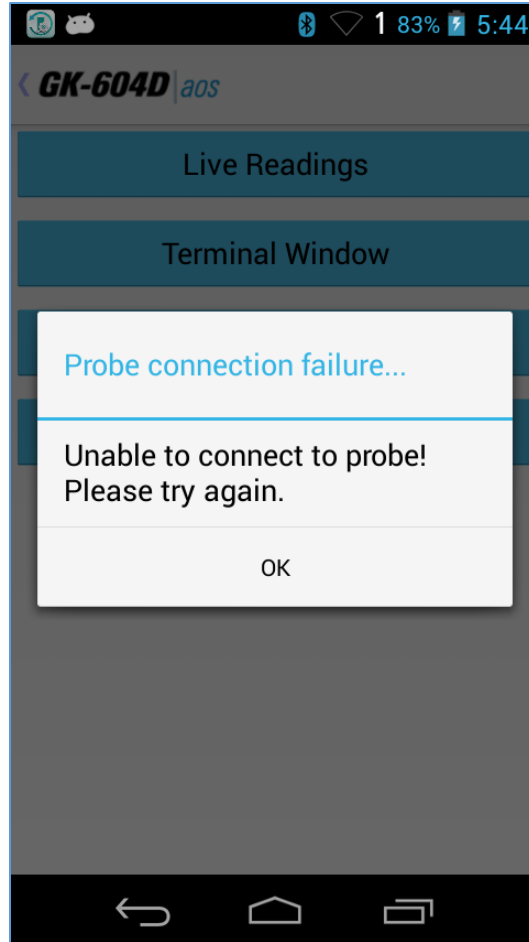
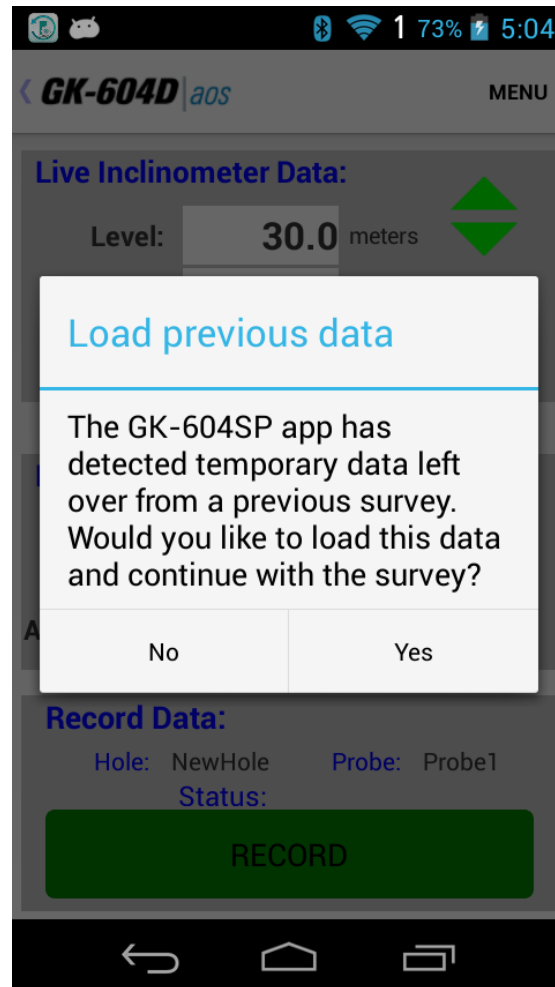
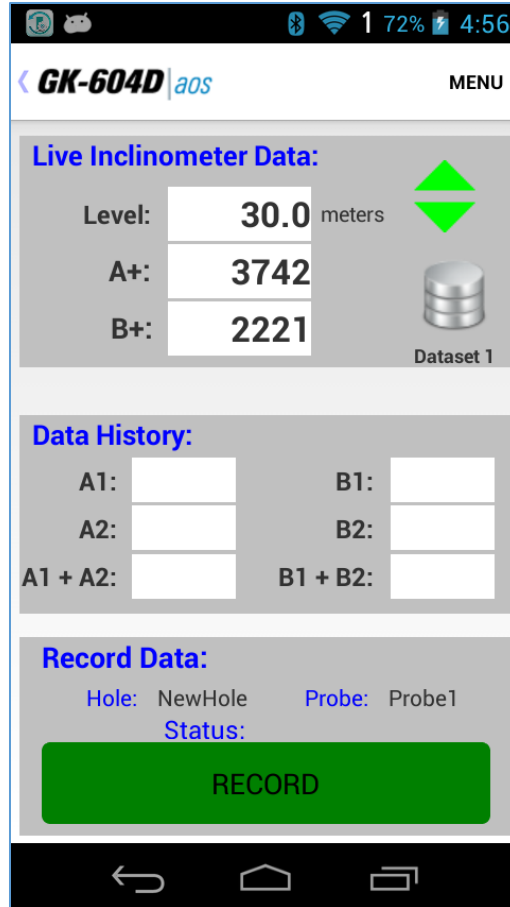
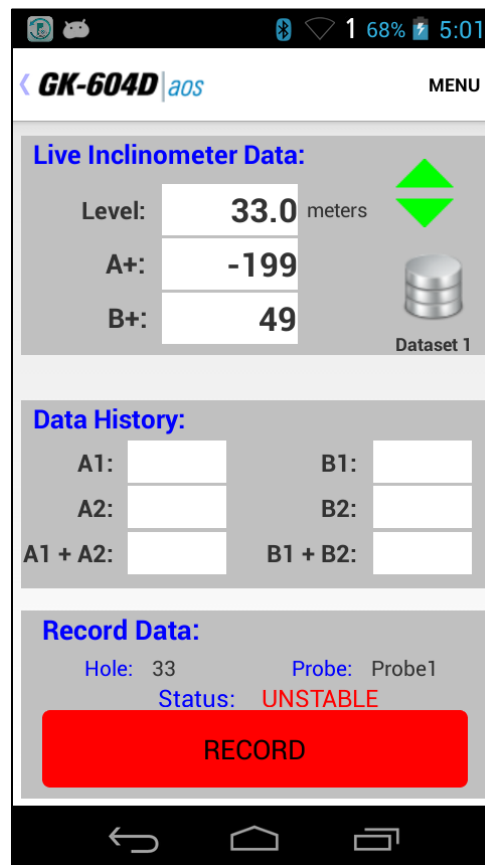

Figure 28 - Remote Module Connection Problem
Figure 29 - Temporary File Data Prompt
Figure 30 - Live Readings Screen
Figure 45 - Unstable Indication
Tapping on this menu item initiates the Remote Module connection process and after a successful connection, the Live Readings screen will be displayed (see Figure 30). Should the connection attempt fail, the window shown in Figure 28 will be displayed. The usual problems are: no pairing between the Remote Module and the Android device and/or Bluetooth is not enabled on the Android device.
1. The "Live Readings" screen is displayed ( Figure 30).
2. Figure 29 shows the message displayed if the GK-604D | aos detects temporary data left over from a previous survey that wasn't saved. Tapping "Yes" loads the temporary data and then displays the Live Readings (see Figure 30). Tapping "No" displays the Live Readings (see Figure 30)
The Live Readings screen (see Figure 30) is where all survey data points are read from the probe and stored in application's database. Readings are continuously updated from the Remote Module. The data set always starts with 'Dataset 1' but can be switched at any time to 'Dataset 2' (after rotating the probe 180 degrees).
This feature requires an active connection to a Remote Module and will attempt to connect when invoked. If a connection cannot be made, the window shown in Figure 28 will be displayed.
- None** On the Live Readings Screen, the only indication of stability will be to monitor the A and B readings (see Figure 30).
- Visual Only** When this stability indication is selected the "Record" button is displayed on the Live Readings Screen in the color green if the reading is stable (Figure 30) or in the color red if the reading is unstable (see Figure 45).
- Visual/Audible** When this stability indication is selected, in addition to the "Record" button colors described above, an audible indication is played indicating readings stability or instability (see Figure 44 and Figure 45, as well as sections 3.2.5.3 and 3.2.5.4).
When taking live readings, if the difference between two subsequent readings of the A **and** B channels are less than or equal to the "Stability Filter" then the reading will be deemed stable and, if enabled, the "Stability Indication" icon (see Figure 30 and Figure 45) will be set accordingly.
If the "Stable Indication" (see section 3.2.5.1) selection is set to "Visual/Audible", this parameter will be enabled and a drop-down list will display the choices of "sounds" that the HHD can make when a stable reading is achieved in the "Live Readings" screen (see Figure 30).
If the "Stable Indication" (see section 3.2.5.1) selection is set to "Visual/Audible", this parameter will be enabled and a drop-down list will display the choices of "sounds" that the HHD can make when the readings achieved in the "Live Readings" screen are determined to be unstable (see Figure 45).